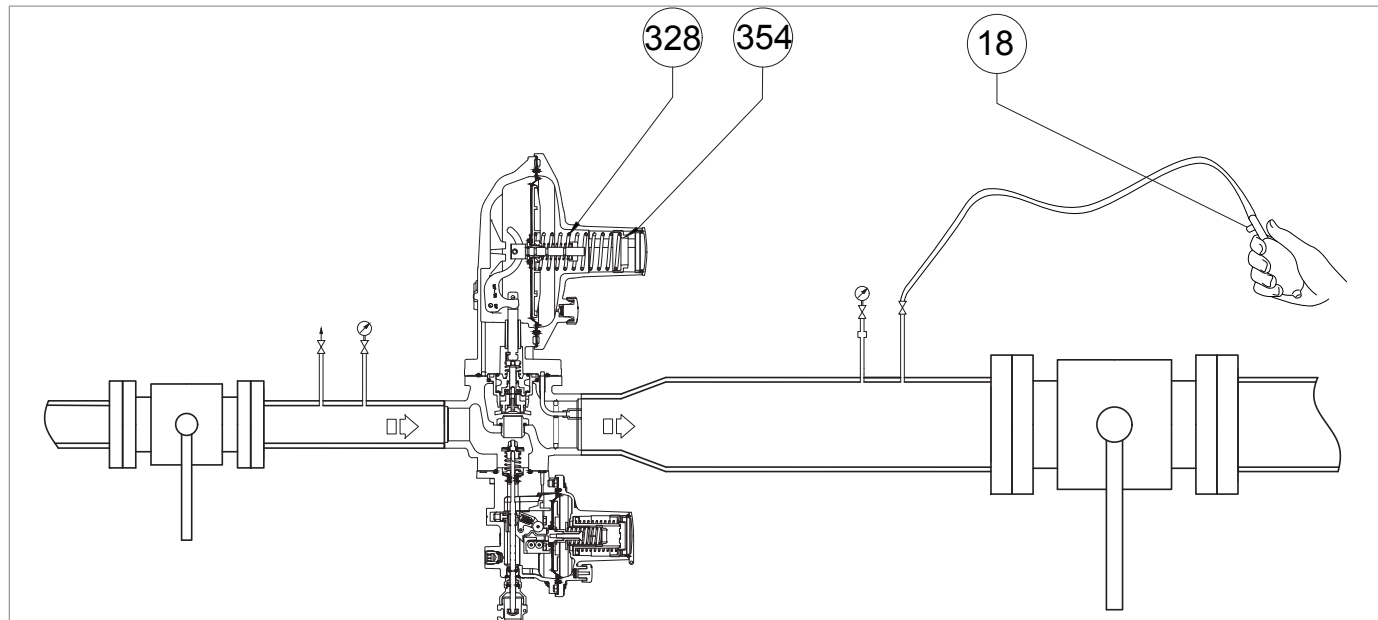
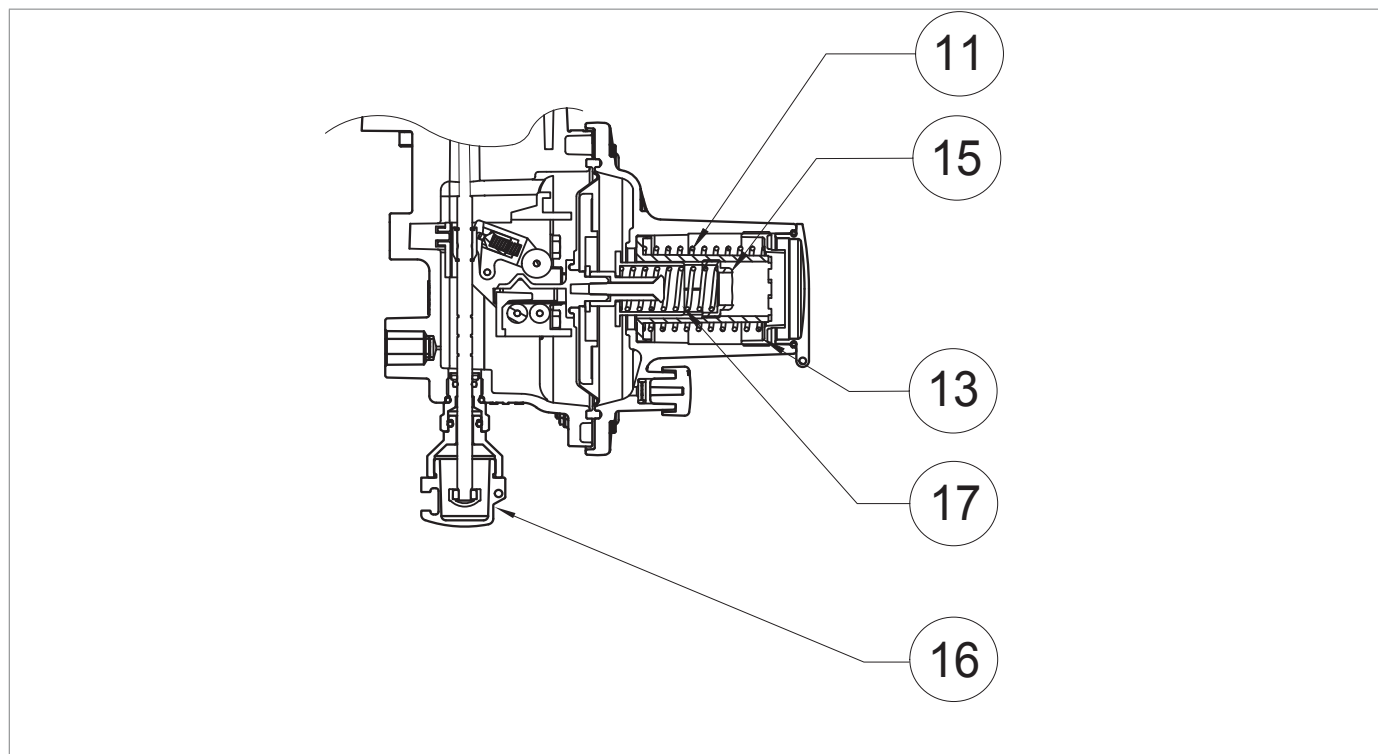
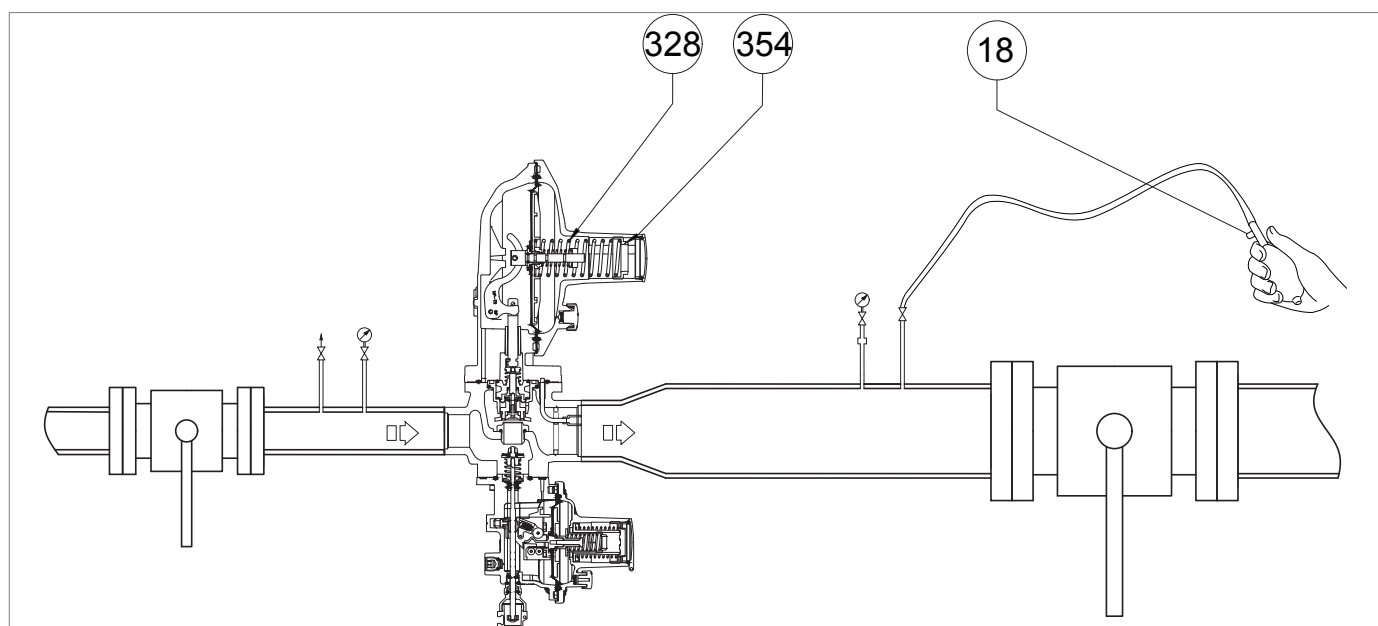

Fig. 8.22. Pressurising with external source for incorporated LA slam-shut valve
Fig. 8.20. Calibration of pressure switch for LA slam-shut valve
Fig. 8.21. Pressurising with external source for incorporated LA slam-shut valve
Increase the downstream pressure to the tripping value of the slam-shut valve, connecting an external pressure source to the bleed cock (Fig. 8.20, ref. 6) placed on the downstream pipe, making sure to open an additional bleed cock (Fig. 8.22, ref. 18).
1	 NOTICE! Check the pressure referring to the downstream pressure gauge (Fig. 8.20, ref. 5). If the slam-shut valve: • trips before the expected pressure value: screw in (clockwise) the adjustment ring nut (13) so as to further compress the spring (11); • does not trip at the expected pressure value: unscrew (anti-clockwise) the adjustment ring nut (13) so as to relieve the spring (11).
2	Decrease the pressure of the downstream section by opening the additional bleed cock (Fig. 8.22, ref. 18) to bring it up to the calibration value of the main regulator.
3	Close the additional bleed cock (Fig. 8.22, ref. 18).
6	Disconnect the external pressure source from the bleed cock (Fig. 8.20, ref. 6).
1	Partially open the bleed cock (Fig. 8.20, ref. 6) to the atmosphere and keep it open for the next steps.
2	Turn the adjustment ring nut (Fig. 8.20, ref. 3) of the regulator anti-clockwise to decrease the downstream pressure (Pd) to the minimum pressure required for tripping of the slam-shut valve.
3	If necessary, remove the closing cap (Fig. 8.22, ref. 354) together with the adjustment ring nut and remove the regulation spring (Fig. 8.22, ref. 328).  NOTICE! Check the tripping pressure value of the slam-shut valve indicated on the downstream pressure gauge (Fig. 8.20, ref. 5).
4	If the slam-shut valve: - trips before the expected pressure value, unscrew (anticlockwise) the adjustment ring nut (Fig. 8.21, ref. 15), to relieve the spring (Fig. 8.21, ref. 17); - does not trip at the expected pressure value, screw in (clockwise) the adjustment ring nut (Fig. 8.21, ref. 15) to further compress the spring (Fig. 8.21, ref. 17).
5	After having checked that the slam-shut valve trips at the preset value, proceed as follows: - Close the air vent valve (Fig. 8.20, ref. 6) - Position the regulation spring (fig. 8.21, ref. 328), the end cap (Fig. 8.22, ref. 354), the adjustment ring nut (Fig. 8.20, ref. 3) - Slowly open the upstream shut-off valve (V1) until the downstream pressure value (Pd) reaches the calibration value of the regulator, referring to the downstream pressure gauge (Fig. 8.20, ref. 5) - Close the upstream shut-off valve (V1) - Slowly and partially open the air vent valve (Fig. 8.20, ref. 6) to decrease the downstream pressure referring to the downstream pressure gauge (Fig. 8.20, ref. 5) until it reaches the minimum pressure tripping value - Check the minimum pressure spring for proper calibration by repeating steps 2-3-4 at least three times - Calibrate the main regulator referring to par. "8.5 - Regulator commissioning procedure"
6	Open the slam-shut valve by acting on the reset knob (Fig. 8.21, ref. 16) and keep it open manually.
7	Turn the adjustment ring nut clockwise (Fig. 8.20, ref. 3) to increase the downstream pressure to the regulator's setpoint.
9	Close the bleed cock (Fig. 8.20, ref. 6).